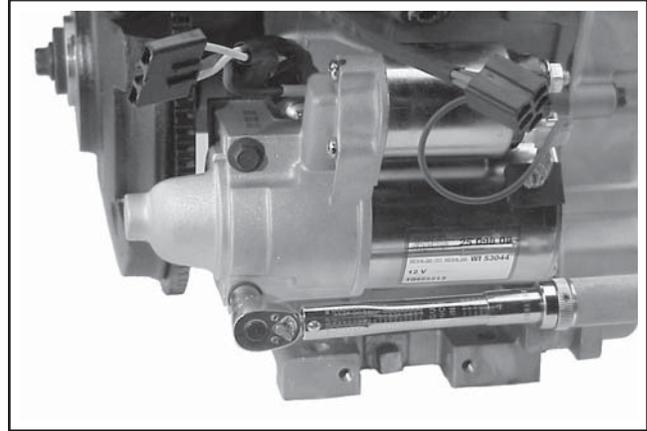

Figure 11-76. Torquing Starter Bolts.
2. Make sure the starter is square to the flywheel, and torque the two hex flange screws to 15.3 N·m (135 in. lb.). See Figure 11-76.